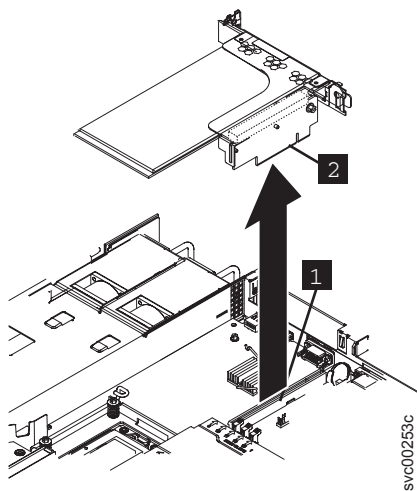

Figure 190. Removing the 10 Gbps Ethernet riser-card assembly
5. After removing the back-rail retaining screws for the Ethernet riser-card assembly, grasp the Ethernet riser-card assembly at either end and pull up out of the PCI slot 2 riser-card connector, as shown in Figure 190. Once the Ethernet riser-card assembly clears the connector, gently twist the Ethernet riser-card assembly to separate the Ethernet riser-card assembly from the node.